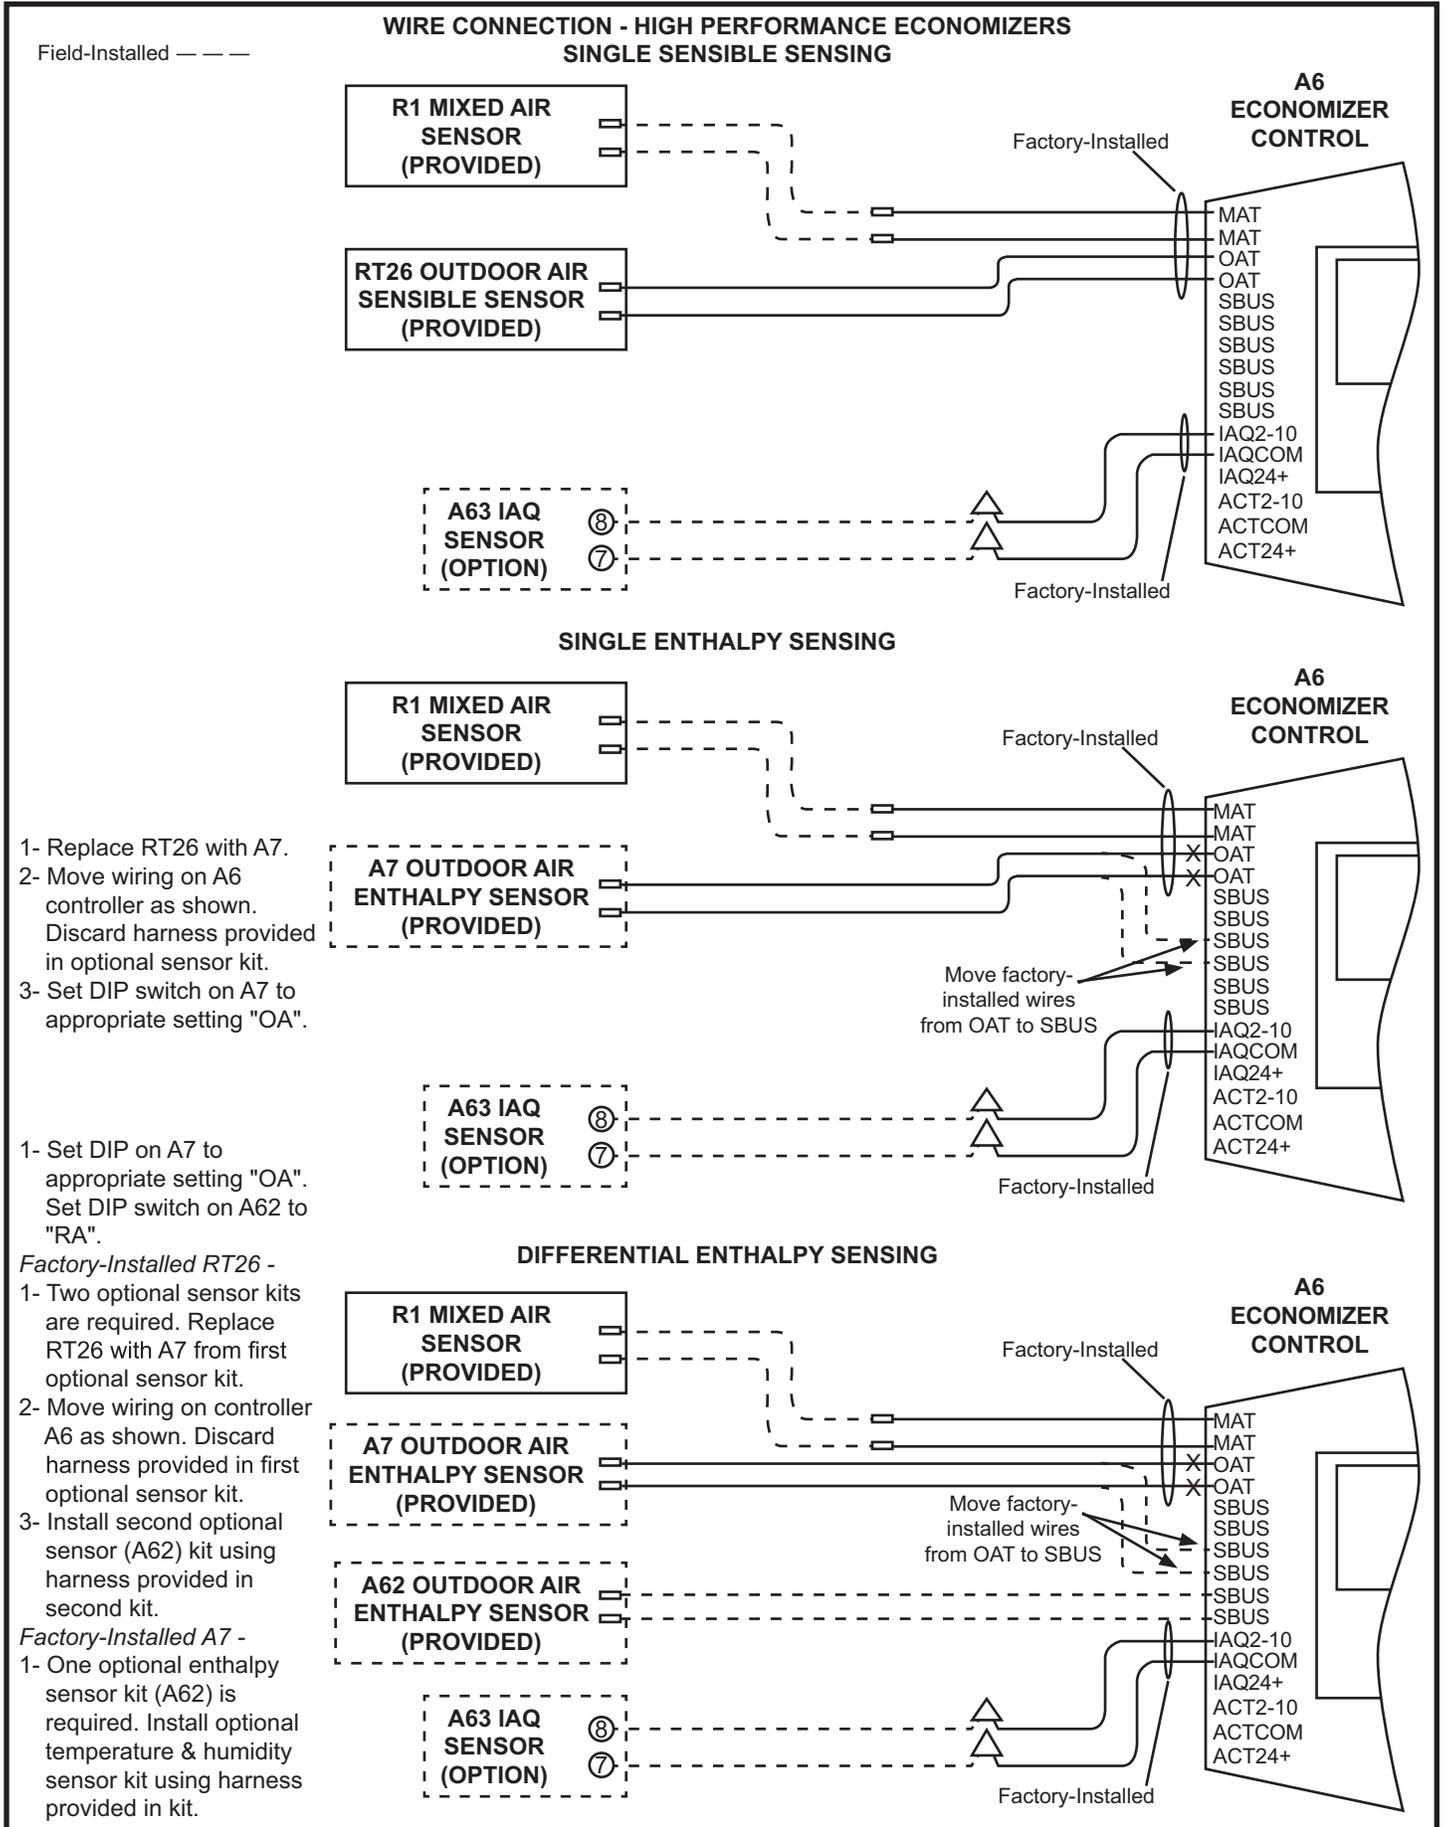

Figure 8
For proper operation, the IAQ sensor must provide a 2-10VDC, 100 ohm impedance signal. Connect sensors to the green IAQ leads provided on the economizer control module in the filter section as shown in Figure 8.
6. Connect any optional sensors as shown in Fig. 8.